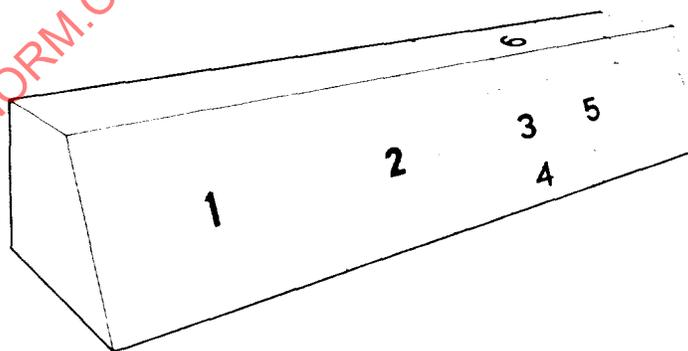

FIGURE 1—LOCATION OF INSTRUMENT AND CONTROL GROUPS
- 3. Location of Instruments and Controls**—Instruments, indicators, and controls necessary for the safe operation of a motor vehicle are divided into six basic groups and assigned to specific areas for the purpose of this recommended practice. The six areas are numbered and their location is shown in Figure 1. The exact placement of the various gages within a specified area is left to the discretion of the truck builder. It is the intent of this recommended practice to define only the general areas for the location of instruments and controls. Figure 1 does not represent the instrument panel of any particular vehicle and may be modified to reflect variations such as console type panels. All instruments and controls must be located out of the head impact area and must be within reach of a properly restrained driver.